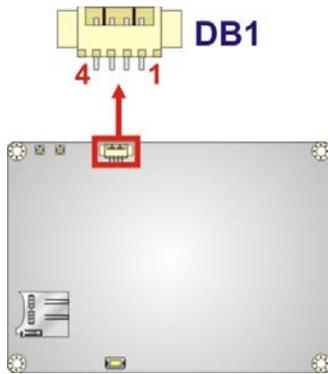

Figure 3-6: Debug Port Location
- CN Location:** See **Figure 3-6**